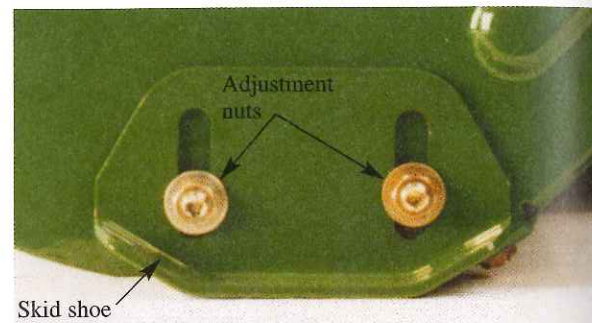

**Figure 20-3.** The skid shoe attached to the auger housing is adjustable to establish intake height and reduce wear on the housing edges.
5. Adjust the skid shoes to clear gravel or crushed rock surface. See **Figure 20-3**. See the *Adjusting Skid Shoes* section in this chapter for this adjusting procedure.